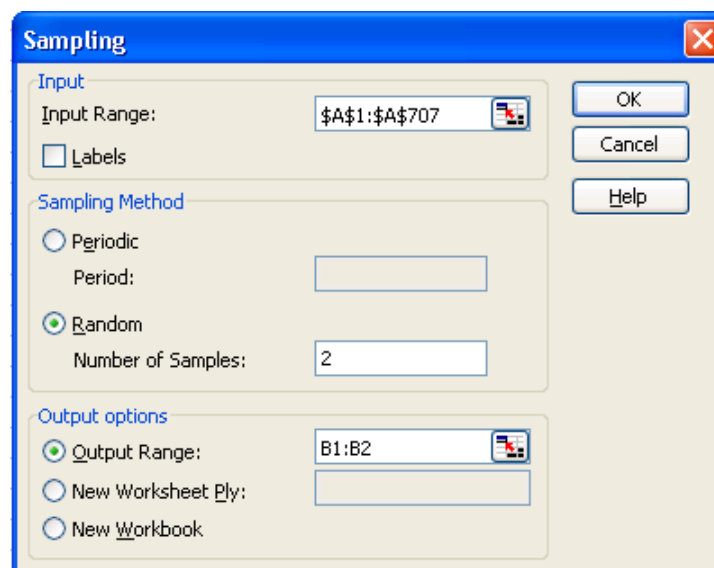

Figure 65.07. Specifying Necessary Sample Size and Ranges
- (4) Specify A1:A707 as the **Input Range**, choose **Random** and enter 2 for **Number of Samples**, specify B1:B2 as the **Output Range**, and click **OK** (Figure 65.07).